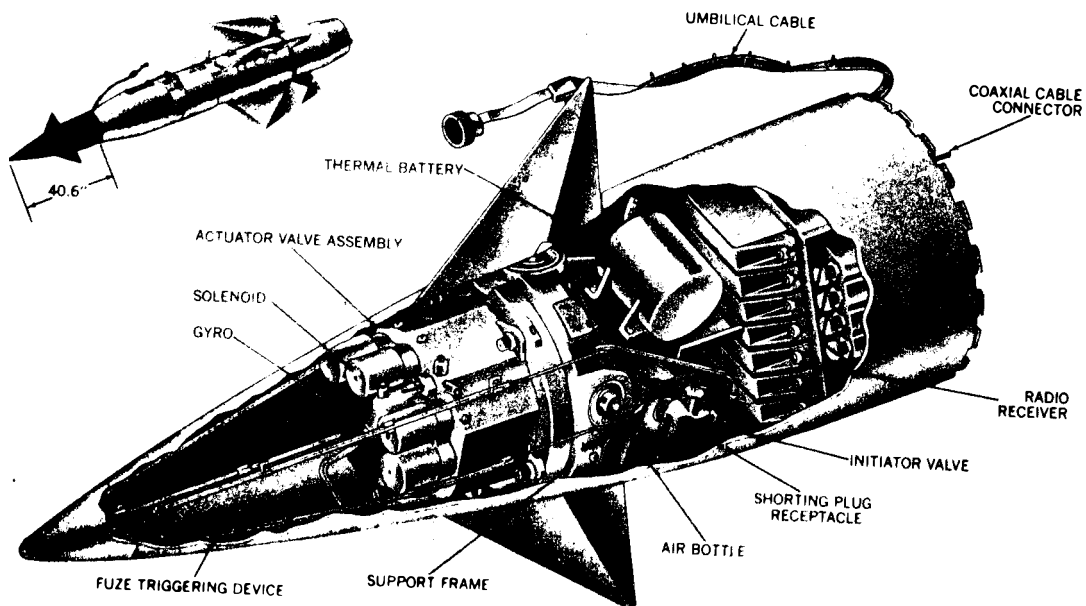

Figure 5-49. Forward Body Section
- a. Three section body (reference figures 5-49, 5-50, 5-51, and 5-52).